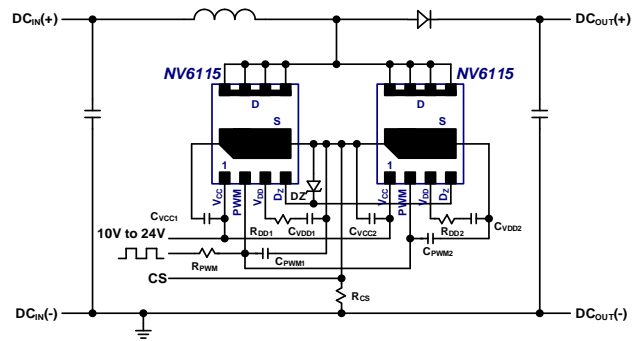

Fig. 25. Boost schematic using two parallel ICs
For some applications it is desirable to parallel ICs in order to reduce conduction losses and temperatures. Two NV6115 ICs can be connected in parallel in a PFC boost application working in boundary-conduction mode (BCM) only. The parallel configuration for two NV6115 ICs is shown in Fig. 25. The paired pins that are connected together include the drain pins (D), the source pins (S), the  $V_{CC}$  pins, the PWM pins, and the  $D_Z$ . A single  $D_Z$  diode can be shared by both ICs. The  $V_{DD}$  pins are not connected together and require separate  $V_{DD}$  supply capacitors ( $C_{VDD1}$ ,  $C_{VDD2}$ ) and separate turn-on current set resistors ( $R_{DD1}$ ,  $R_{DD2}$ ). Each IC should have its own local  $V_{CC}$  supply filter capacitor ( $C_{VCC1}$ ,  $C_{VCC2}$ ). The PWM pins can have a single filter resistor ( $R_{PWM}$ ) but separate filter capacitors ( $C_{PWM1}$ ,  $C_{PWM2}$ ) should be placed at the PWM pin of each IC. When designing the PCB layout for the two paralleled ICs, the drain and source connections should be made as symmetrical as possible to avoid any parasitic inductance or capacitance mismatch. A proper PCB layout example for paralleling is shown in Section 10.